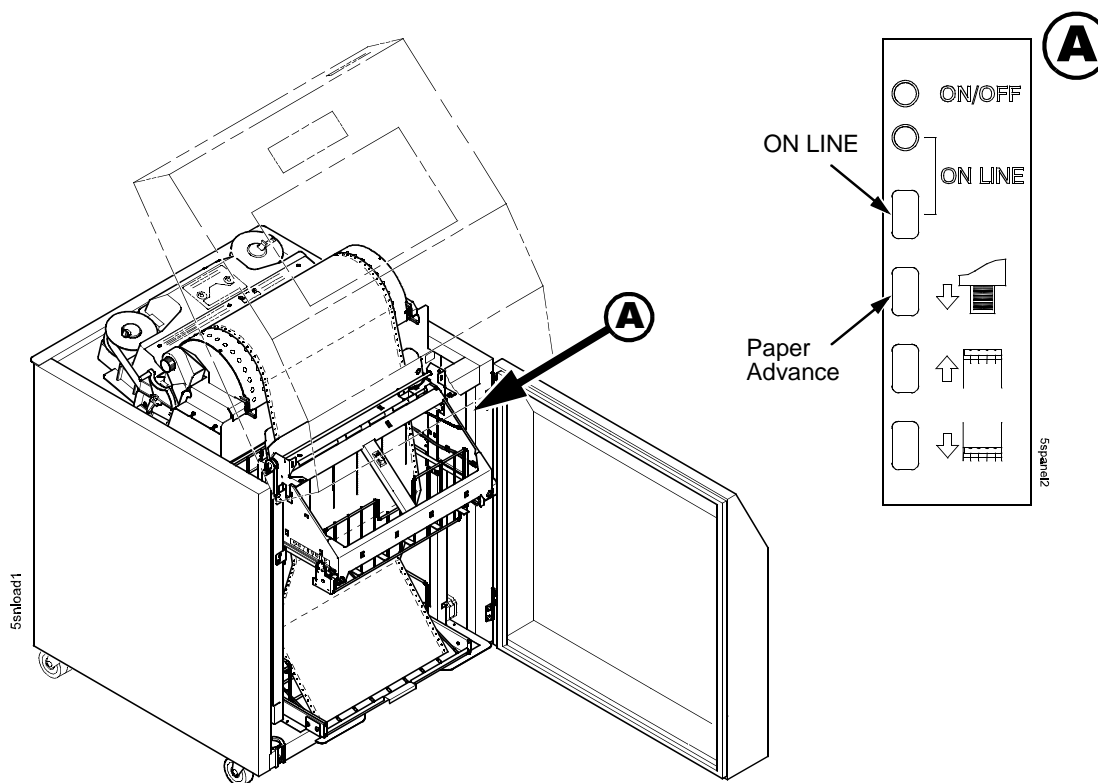

Figure 62. Stacking Paper on the Wire Paper Tent
1. Press the PAPER ADVANCE key and hand feed the paper into the paper throat. Continue to advance the paper until it reaches the wire tent and feed three to five extra sheets in the stacker. Make sure the paper passes through the paper stacker throat. (Figure 62.)
2. Stack the extra pages on top of the wire paper tent, making sure the paper bends with the natural fold. (Figure 62.)